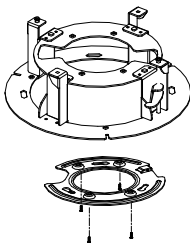

Figure 2-51 Fix the Base Plate to In-ceiling Bracket
2. Fix the base plate onto the in-ceiling bracket with the four screws in the package (supplied). Make sure that the cable holes of the base plate are aligned to the cable holes of the bracket, as shown in Figure 2-51.